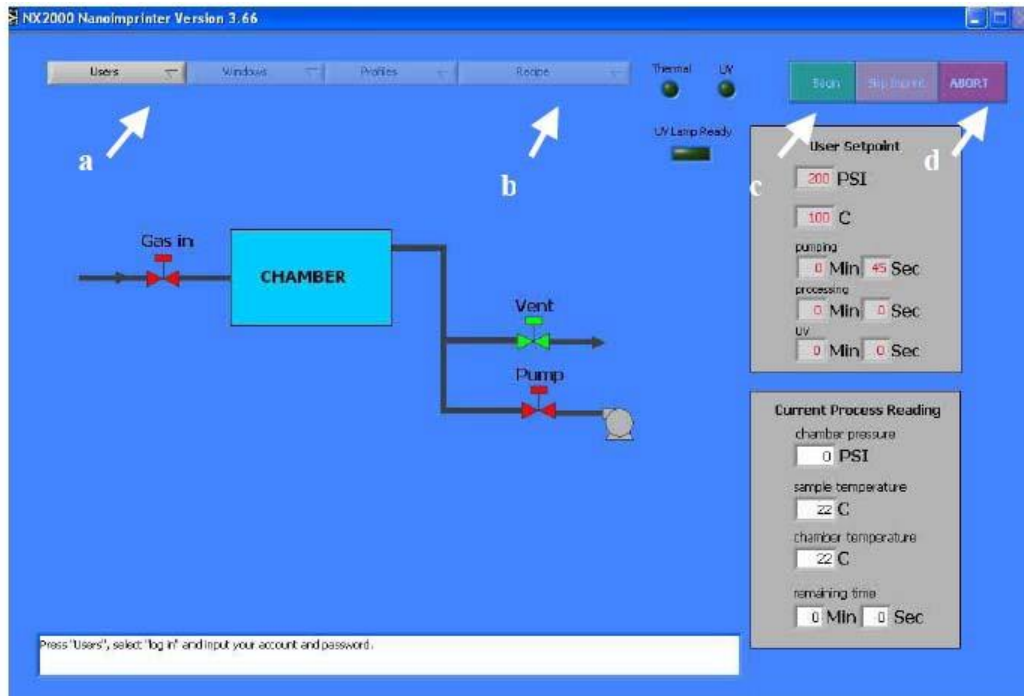

Figure 4-9 NX-B200 v3.65 menu
- c Click “Users” ⇒ “Log in” (“a” in figure 4-9), enter user ID- **user** and Password – **user_1234**, and click “OK” to log onto the system. If for some reason, you don’t want to log in, just click “EXIT” in the log in pop up menu. The program will terminate.
- d Click load recipe (“b” in figure 4-9)
- j To begin imprint click green “Begin” button (“c” in figure 4-9).
- p At any time the operator can abort the process by clicking the red “abort” (“d” in figure 4-9) in the upper right of the screen. After pressing the abort button in the software, the operator should wait for ~ 1 minute, and then follow the screen instructions to continue. Also, an emergency stop may be executed by pressing the red Emergency button on the small box underneath the monitor. After an emergency stop, the operator must contact NFC staff to reset the machine.